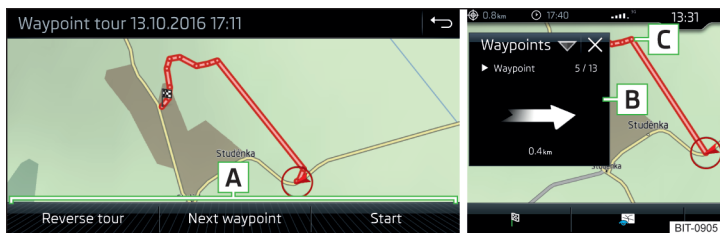

Fig. 235 Display a waypoint / Guide along a waypoint tour
- Select one of the following menus **A** » Fig. 235.
While driving along a waypoint tour, the split screen shows the **Waypoints** and the direction to drive as well as the distance to the next waypoint, the sequence number of the next waypoint and the total number of waypoints **B** » Fig. 235.
The waypoint tour from the vehicle position to the next waypoint “reduces” continuously while driving “ ” **C** » Fig. 235 .
- > Display the waypoint tour » Fig. 235 on page 195